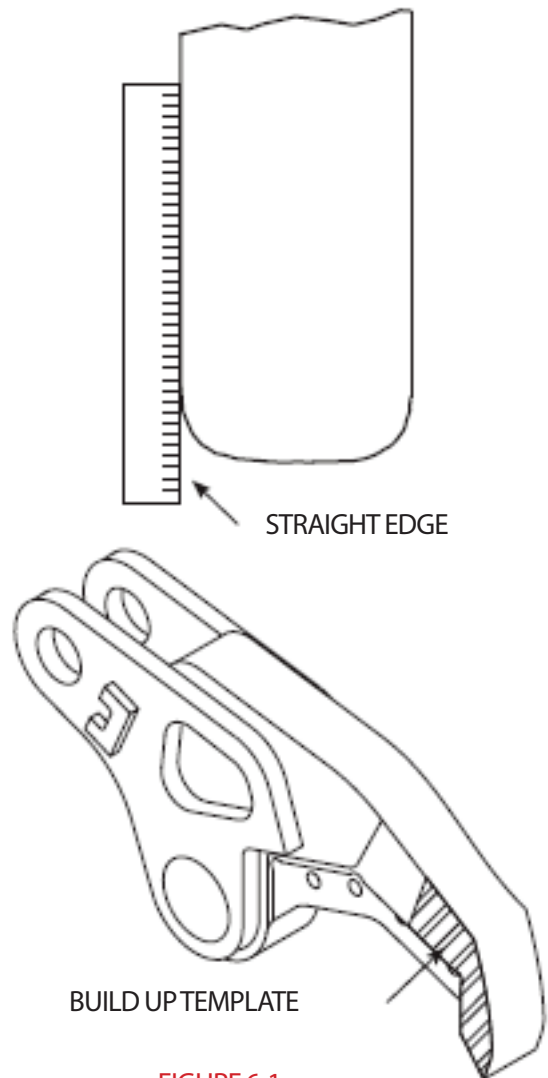

FIGURE 6-1
1. For maximum shearing efficiency, the upper shear should be checked for wear. All edges should be kept square with the blades and piercing tip. To determine how much build-up is required on the front of the upper shear, place a straight edge along cutting blades and the newly maintained or replaced piercing tip. There will be a gap indicating how much build-up is required (see figure 6-1).